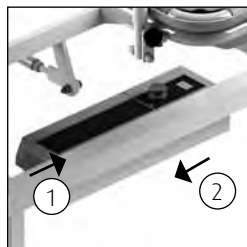

Figure 9: Battery
- In order to remove the battery, use one hand to unlock the catch (1) on the battery, then slide the battery to the right (2). (See figure 9).